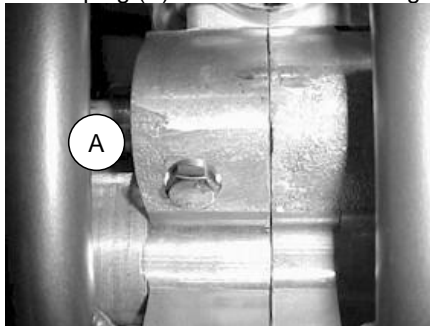

Figure 28
1. Remove the coolant drain plug (A) on the front of the engine case (figure 28).